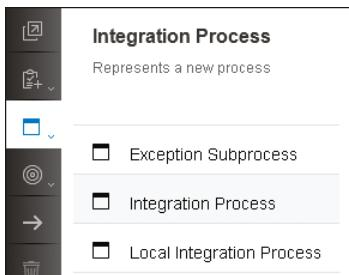

Figure 5.79 Process Shape in the Modeling Environment Palette
1. Add a new **Integration Process** below the existing integration process by selecting it from the modeling palette under the **Process**  shape. In the submenu, the **Integration Process** is one of the process elements available (Figure 5.79).